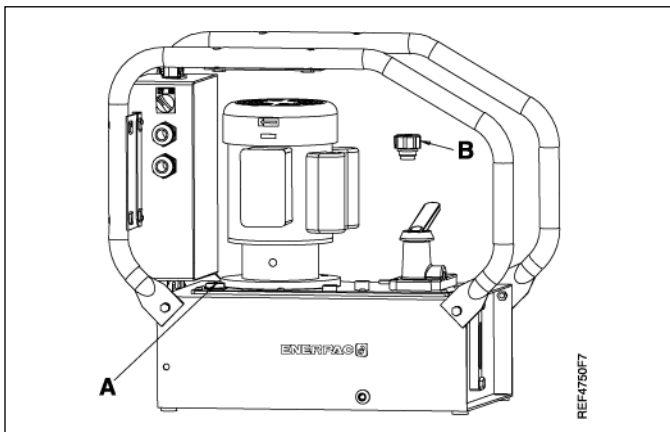

Figure 5
4.5 Breather Cap (See Figure 5)